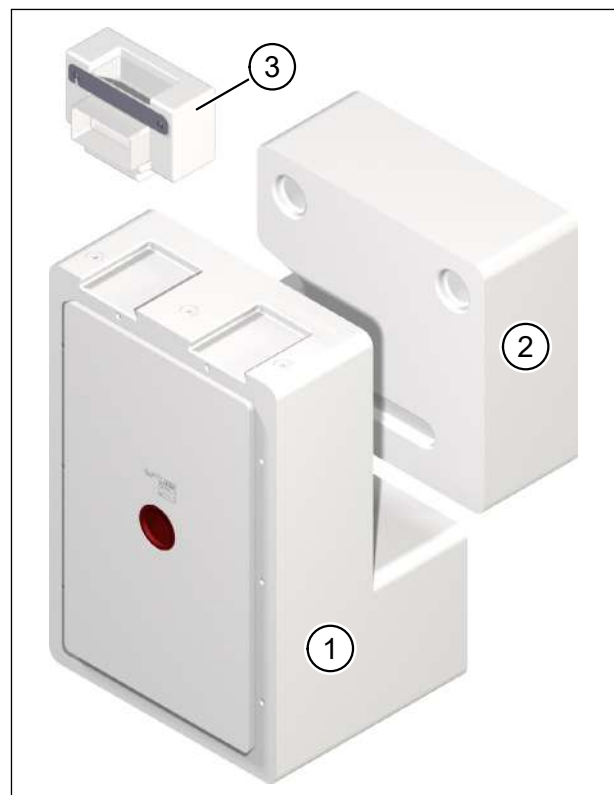

Fig. 1: Installation kit M-WRG-II M with optional filler piece M-WRG-II M/Fü and ductwork connection adapter M-WRG-II AD-UP
This manual describes how to flush-mount the M-WRG-II M installation kit (item 1 in Fig. 1) in frame constructions. In a new build or a retrofit, if a complete wall aperture is planned for the installation kit, the optional filler piece M-WRG-II M/Fü (item 2 in Fig. 1) can be used to pack out the wall. Flush-mount flat ductwork or flexible pipe systems can be connected using the ductwork connection adapter M-WRG-II AD-UP (item 3 in Fig. 1) which is available as an option. The ductwork connection adapter can be used on the extract air side, supply air side or on both sides of the installation kit as required. The combination of installation kit M-WRG-II M and ductwork connection adapter M-WRG-II AD-UP is suitable for applications in which the wall is not thick enough for the integrated into wall installation kit M-WRG-II M-U2.